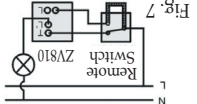

Fig. 7
- To replace a 2 way switch please refer to Fig. 7 for wire connection and add a link to the remote switch.